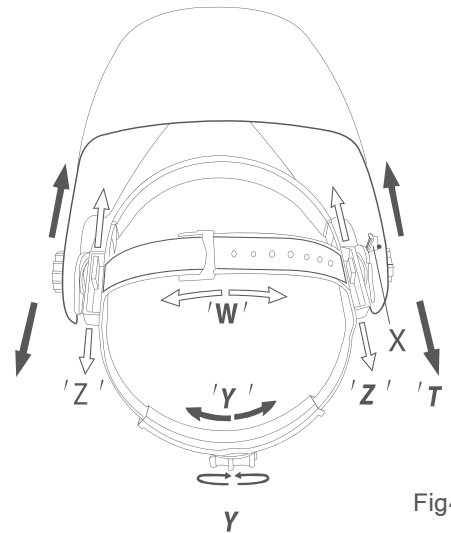

Fig4
- 4.1. Headgear top (see adjustment "W" in the fig. 4)
- 4.3 Headgear tightness (see adjustment "Y" in the fig. 4)
- 4.4 Angle adjustment (see adjustment "X" in the fig. 4) Four pins on the right side of the headgear top provide adjustment for the forward tilt of the helmet. To adjust, loosen the right outside tension adjustment knob then lift on the control arm tab and move it to the desired position and retighten tension adjustment knob.